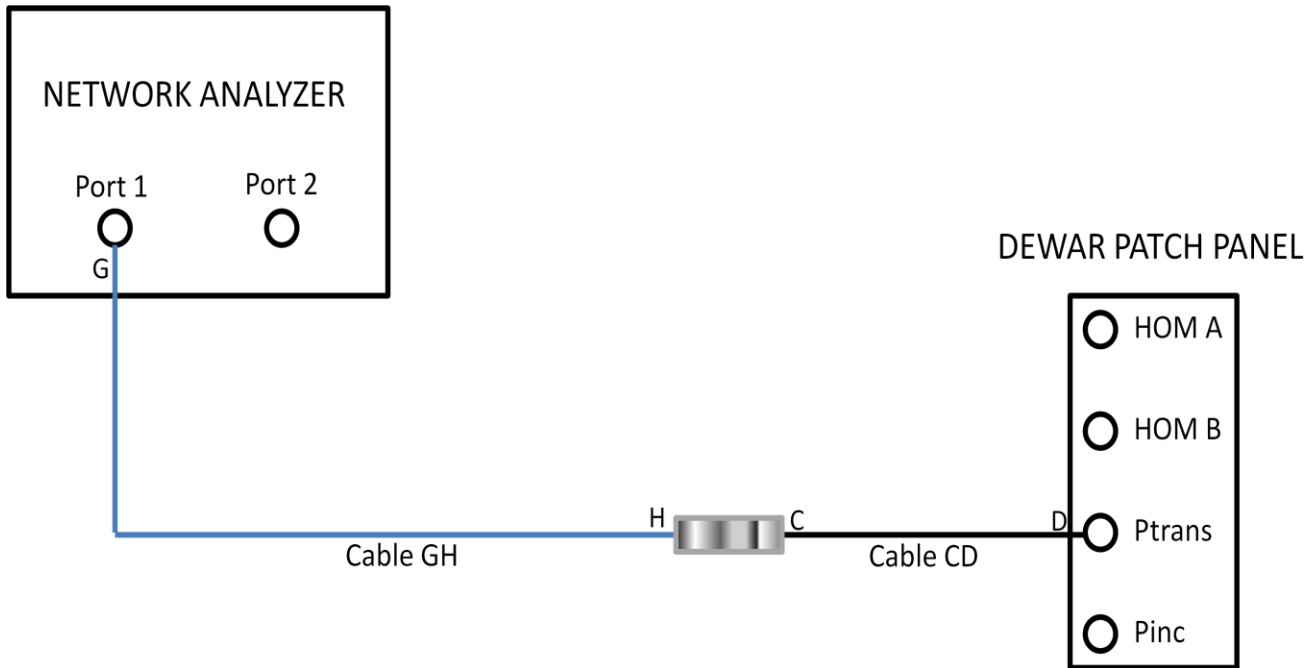

Figure 3. Network Analyzer connection to P_{TRANS}
- a. At Dewar, connect cable GH from network analyzer to cable CD (P_{TRANS}) as shown in Figure 3.